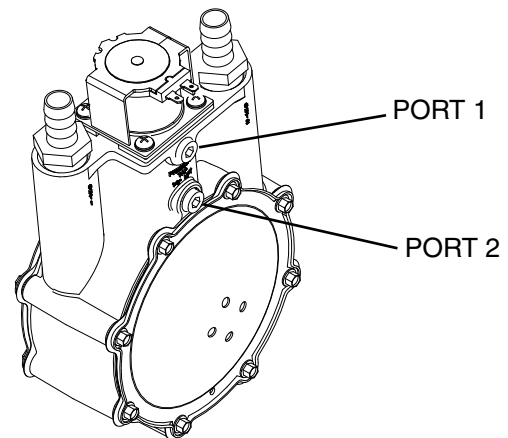
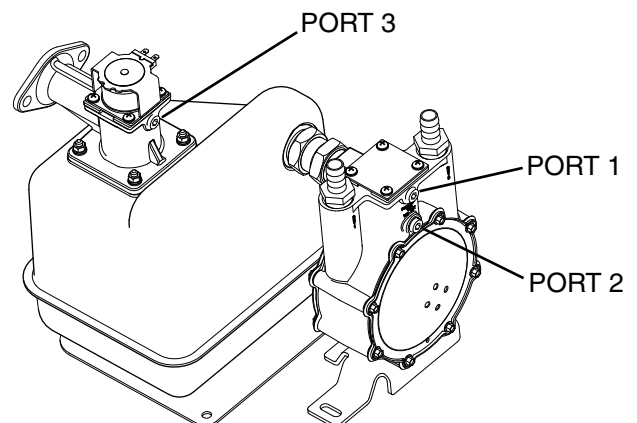

Figure 186. (8 kW) Gas Pressure Test point
Figure 188. (12-20 kW) Gas Pressure Test point
1. See Figures 186, 187 or 188 for the gas pressure test point on the fuel regulator. The fuel pressure can be checked at Port 1 on all fuel regulators, and at Port 3 on 12-20 kW units.
1. Install a manometer to Port 2 on the fuel regulator. See Figure 186 or Figure 188.